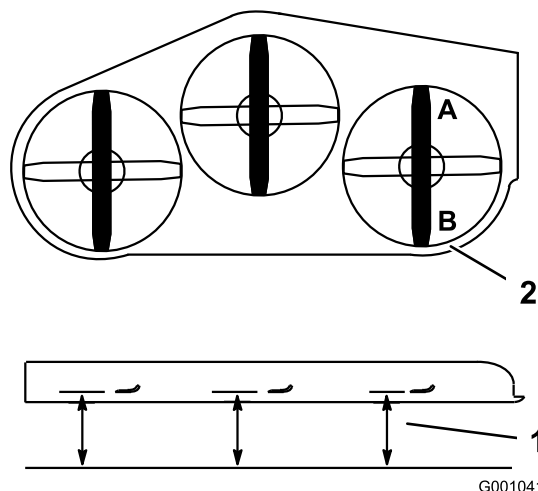

Figure 83
1. Position the **right** blade front-to-rear (Figure 83).
2. Measure the right blade at the **A** location, from a level surface to the cutting edge of the blade tip (Figure 83).
4. Measure the right blade at the **B** location, from a level surface to the cutting edge of the blade tip (Figure 83).
6. The mower blade should be a 1/4 to 3/8 inch (6 to 10 mm) lower at position **A** than at position **B** (Figure 83). If it is not correct, proceed to the following steps.